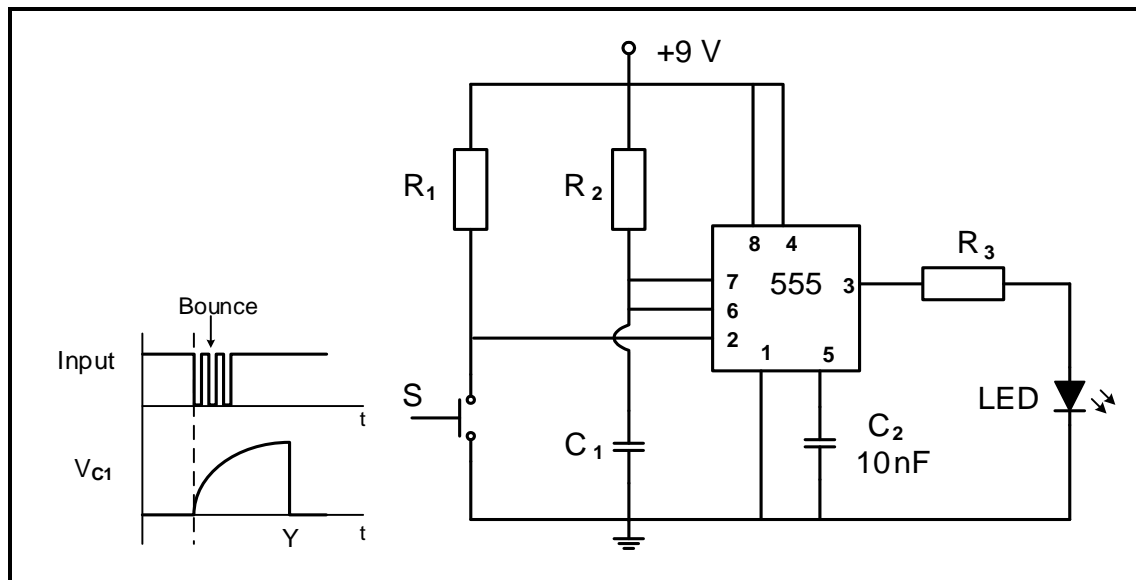

FIGURE 3.1: MONOSTABLE MULTIVIBRATOR
3.1 Refer to FIGURE 3.1 below and answer the questions that follow.